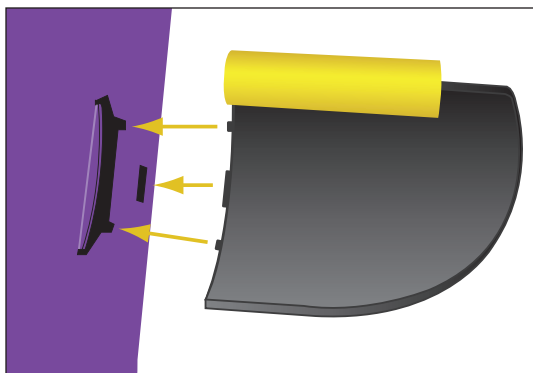

FIGURE 6
4. Install the Strip Guide by inserting its widest tab in the rectangular slot at the lower right side of the machine. Rotate the guide up until its magnet snaps it in place. (fig. 6)